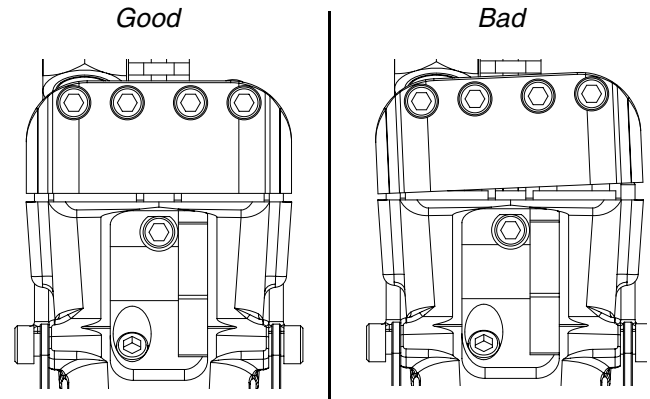

FIG. 10
11. Hold the trigger fully engaged and measure the space between the trigger clamp and the gun body on both sides. The gaps should be at least 0.065 in. (1.65 mm) in the open position. Adjust screws as necessary. See FIG. 10.